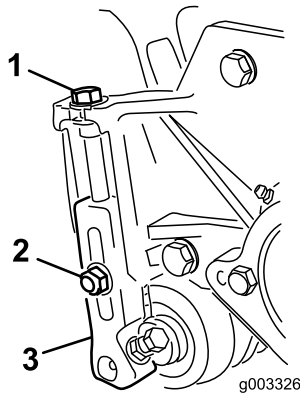

Figure 16
1. Loosen the locknuts securing the height-of-cut arms to the cutting unit side plates (Figure 16).